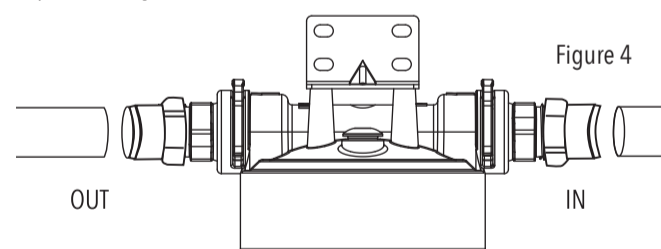

Figure 4
8. Insert pipe into filter head fitting making sure end of pipe is firmly seated to backstop. Connect pipe from water supply to "IN" port (see Figure 4.)